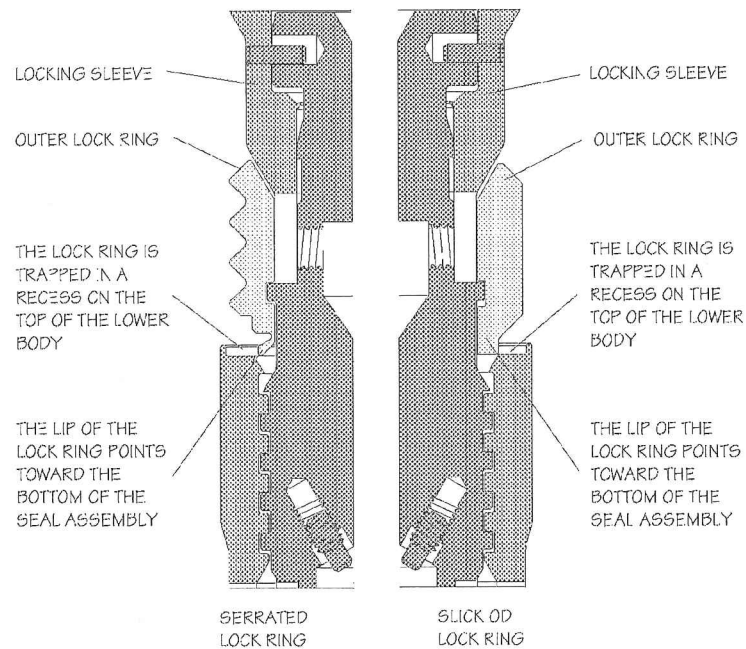

Figure 11. Outer lock rings are installed onto the Seal Assemblies
4. Expand the lock ring enough to install it over the Seal Assembly locking sleeve. Ensure the lip of the lock ring points toward the bottom of the Seal Assembly. Refer to **Figure 11**.